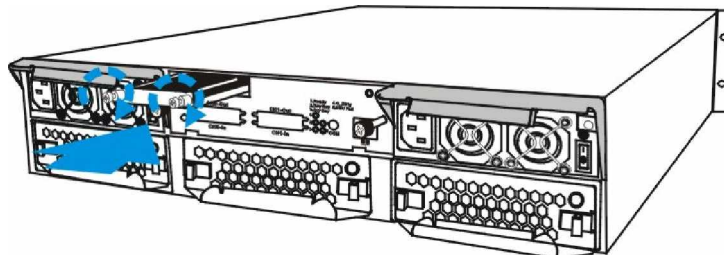

Figure 5-5: Install the BBU Module
- Step 2. **Install the new BBU module.** After the faulty BBU module has been removed, the new BBU module can be installed. To do this, align the BBU module with the empty slot, and then gently push the BBU module into the slot. (See **Figure 5-5**)